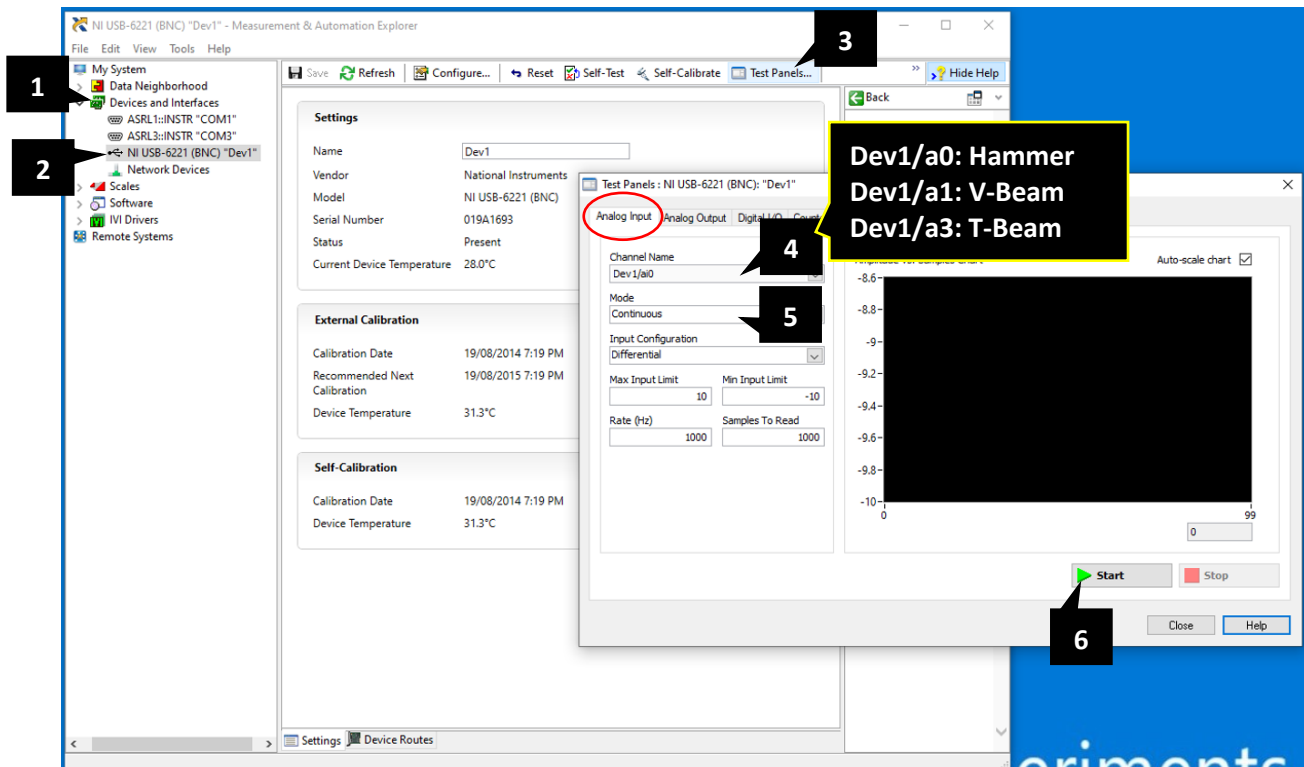
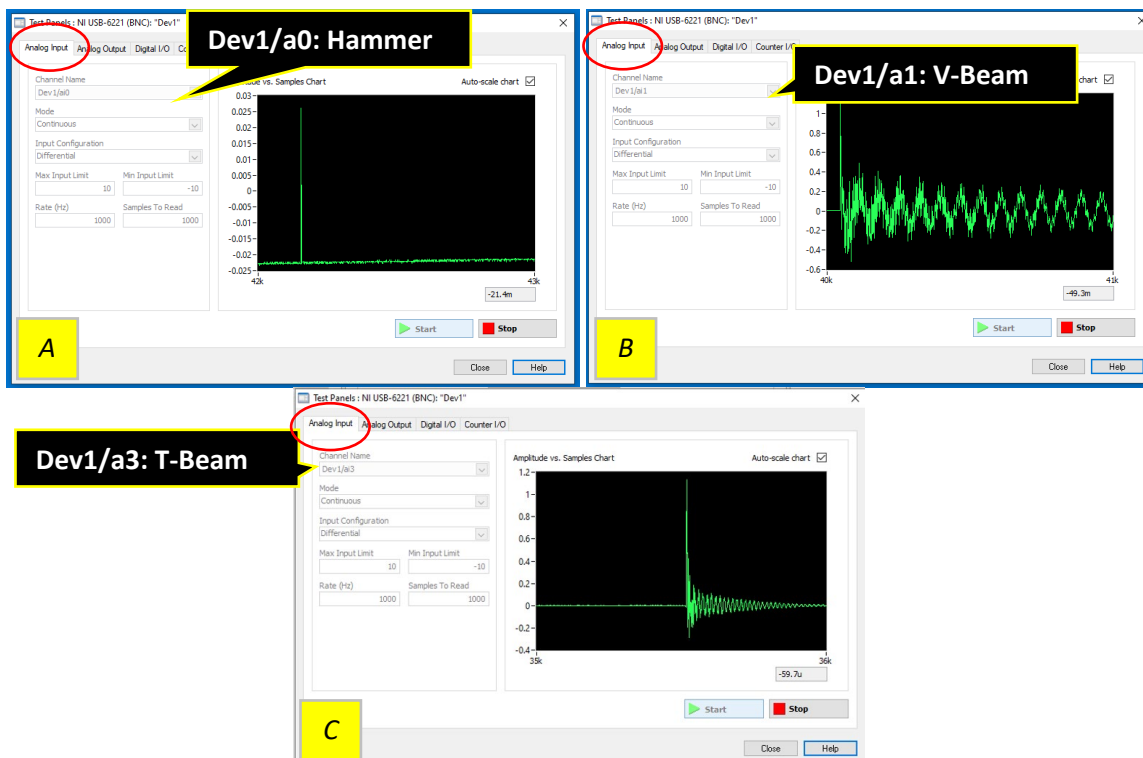

Fig. 5. Activate the Analog Output tests through NI MAX
Fig. 6. Results of the Analog Input tests on (A) Hammer, (B) V-Beam and (C) T-Beam
3. Otherwise, the test can be done through NI Max, by following steps shown in the Figure 5.
4. Click 'Start' (step 6 in Fig. 5) and apply a light tap on the apparatus related to the Analog Input sensors, and Figure 6 shows 'PASS' results of these tests.